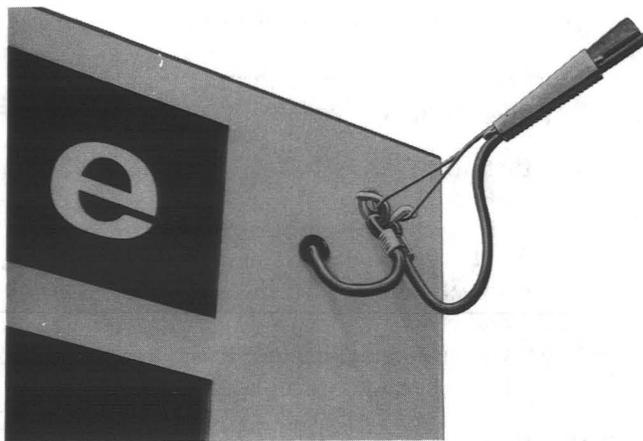
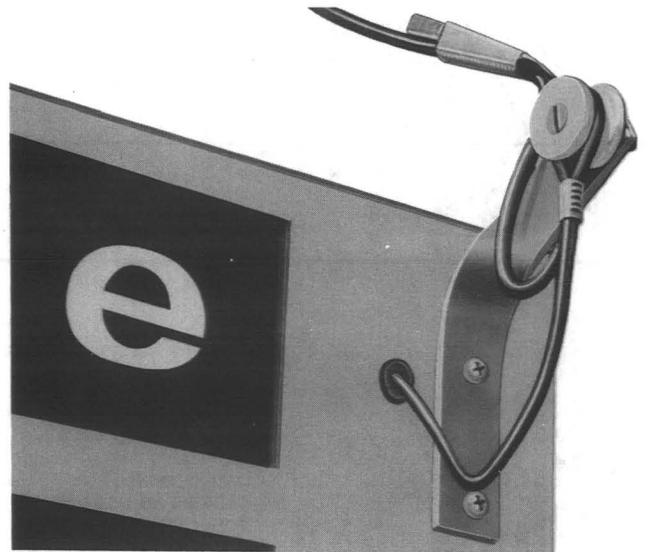

Fig. 16—Drop Wire Hook for First Attachment
Fig. 17—Corner Bracket for First Attachment
**3.06** Attach drop wire hook (Fig. 16) or corner bracket (Fig. 17) (whichever is required) on right-rear column adjacent to the entrance hole as follows:
- (a) **Drop Wire Hook:** Secure drop wire hook (Fig. 16) to clinch nut (provided with booth) using one 1/4-20 by 3/4 flathead machine screw, one 1/4-inch flat washer, and one 1/4-inch lockwasher.
- (1) Secure the corner bracket (Fig. 17) to the threaded clinch nut using one 1/4-20 by 3/4 Phillips roundhead machine screw.
- (2) Using the bracket as a template, drill a clearance hole for another 1/4-inch screw.
- (3) Further secure the bracket to the booth using one 1/4-20 by 3/4 Phillips roundhead machine screw, one 1/4-inch flat washer, one 1/4-inch lockwasher, and one 1/4-inch hex nut.